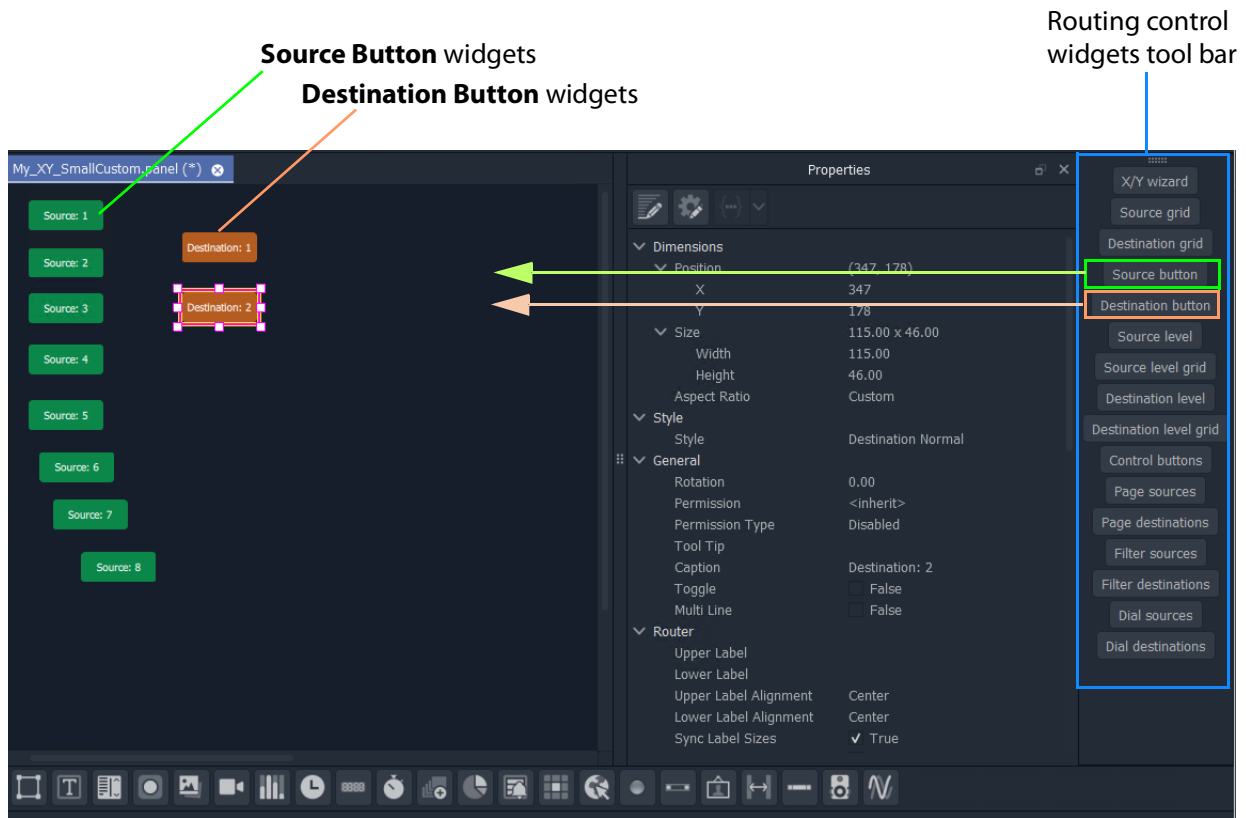

Fig. 6-41: Adding Source and Destination Buttons
- 1 Add 8 **Source Button** widgets from the Routing widget tool bar (see Figure 6-41). (Click on 'Source Button' button on the tool bar and drag on button widgets.)